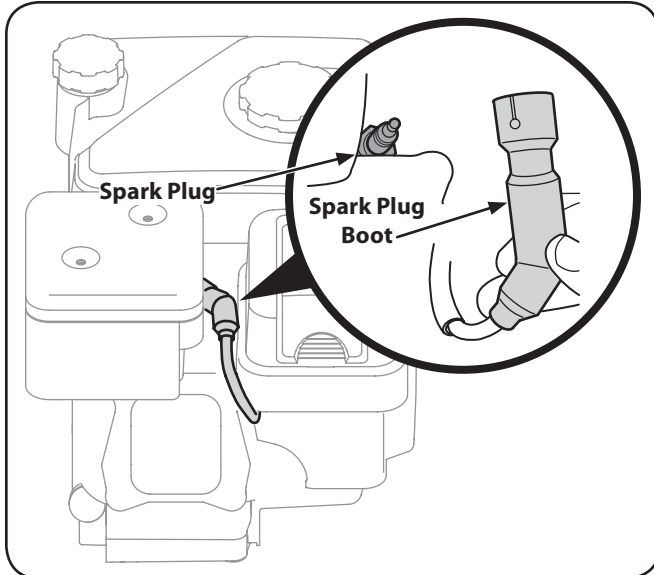

Figure 6-2
1. Carefully disconnect the spark plug wire and keep it away from the spark plug. Refer to Fig. 6-2 for spark plug location.